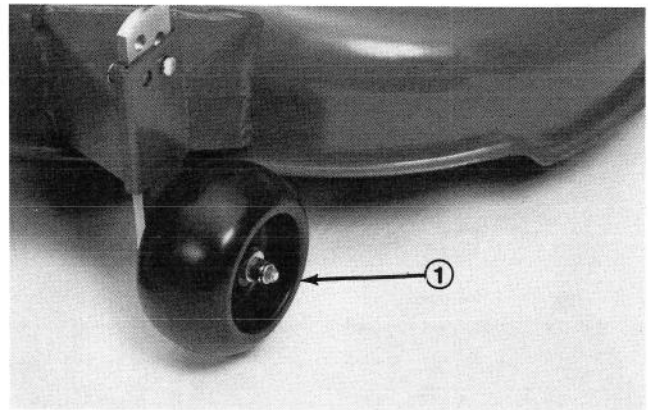

Figure 6
2. Mount cutting unit to carrier frame with four (4) clevis pins and hair pin cotters (Fig. 6).